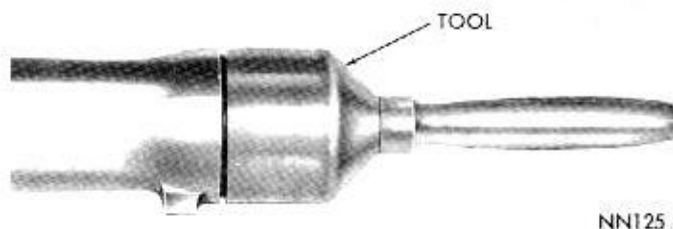

Fig. 18—Installing Extension Housing Yoke Seal
(3) To install a new seal, position seal in opening of extension housing and drive it into the housing with Tool C-3995 or C-3972 (Fig. 18).
(4) Carefully guide front universal joint yoke into extension housing and on the mainshaft splines. Align marks made at removal and connect propeller shaft to rear axle pinion shaft yoke.